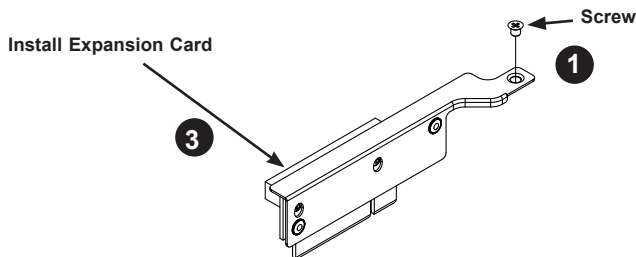

Figure 6-9. Removing the Riser Bracket
1. Remove the riser card bracket from the chassis by removing the screw indicated in Figure 6-9.